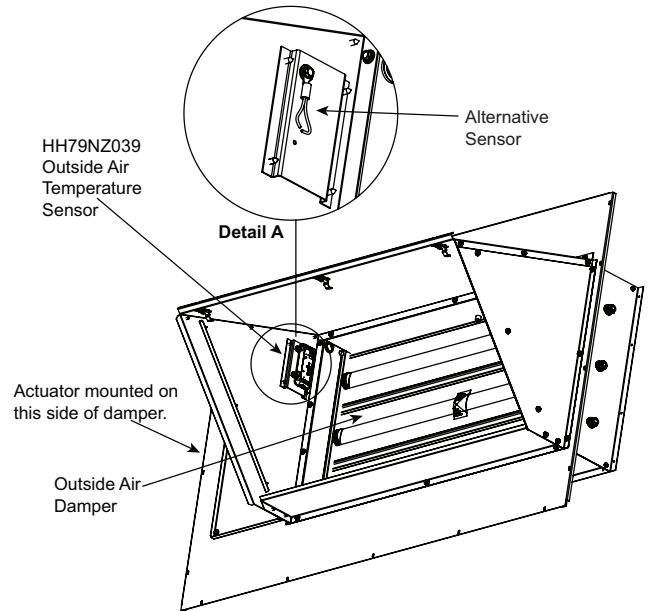
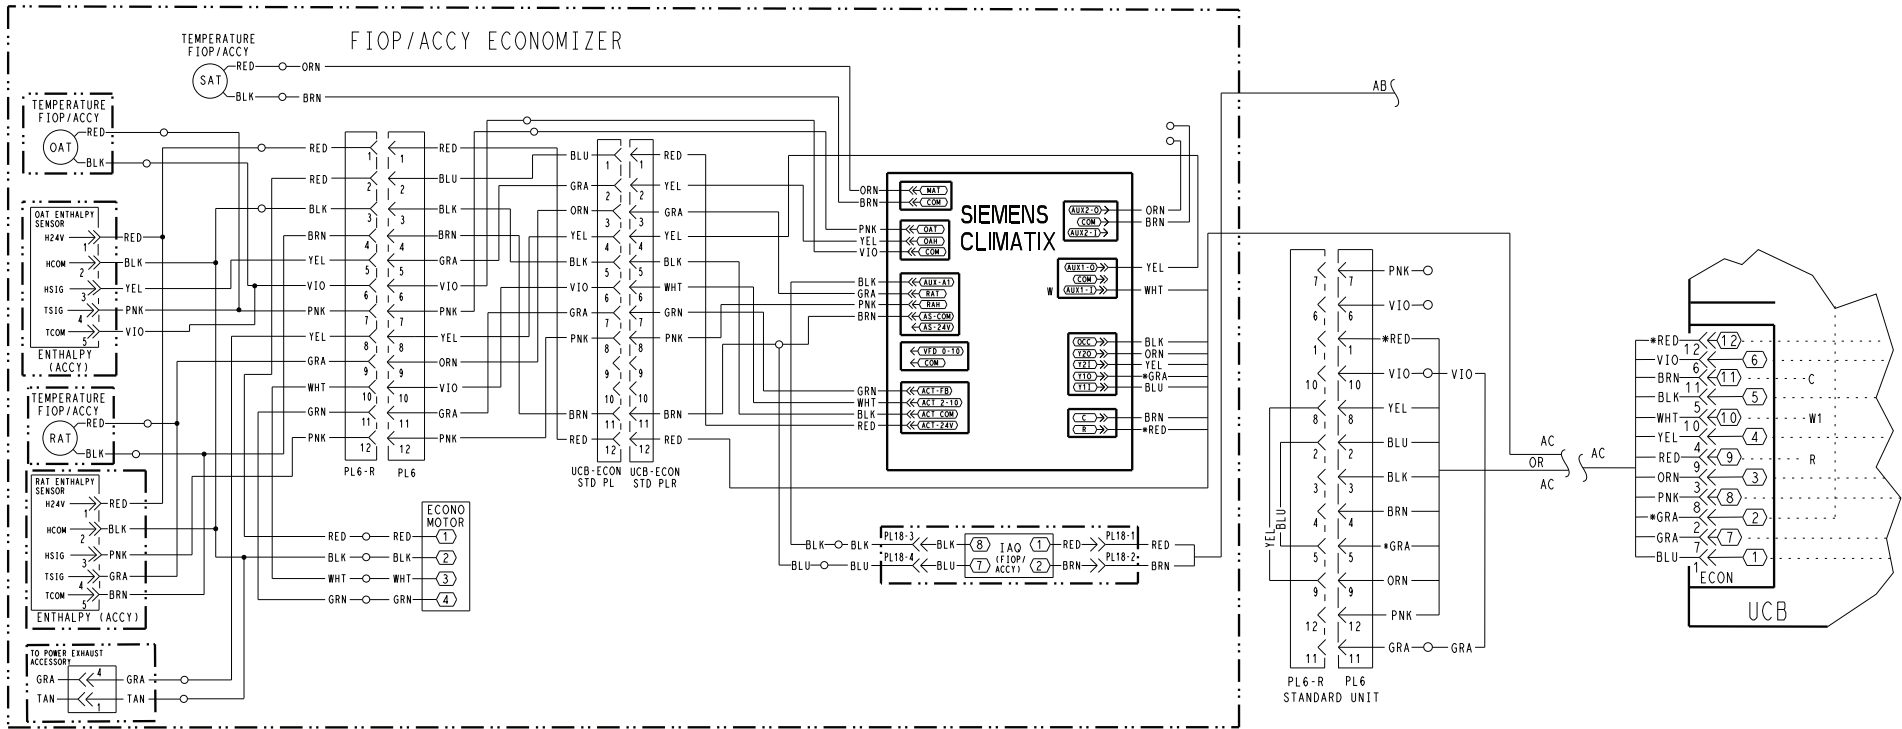
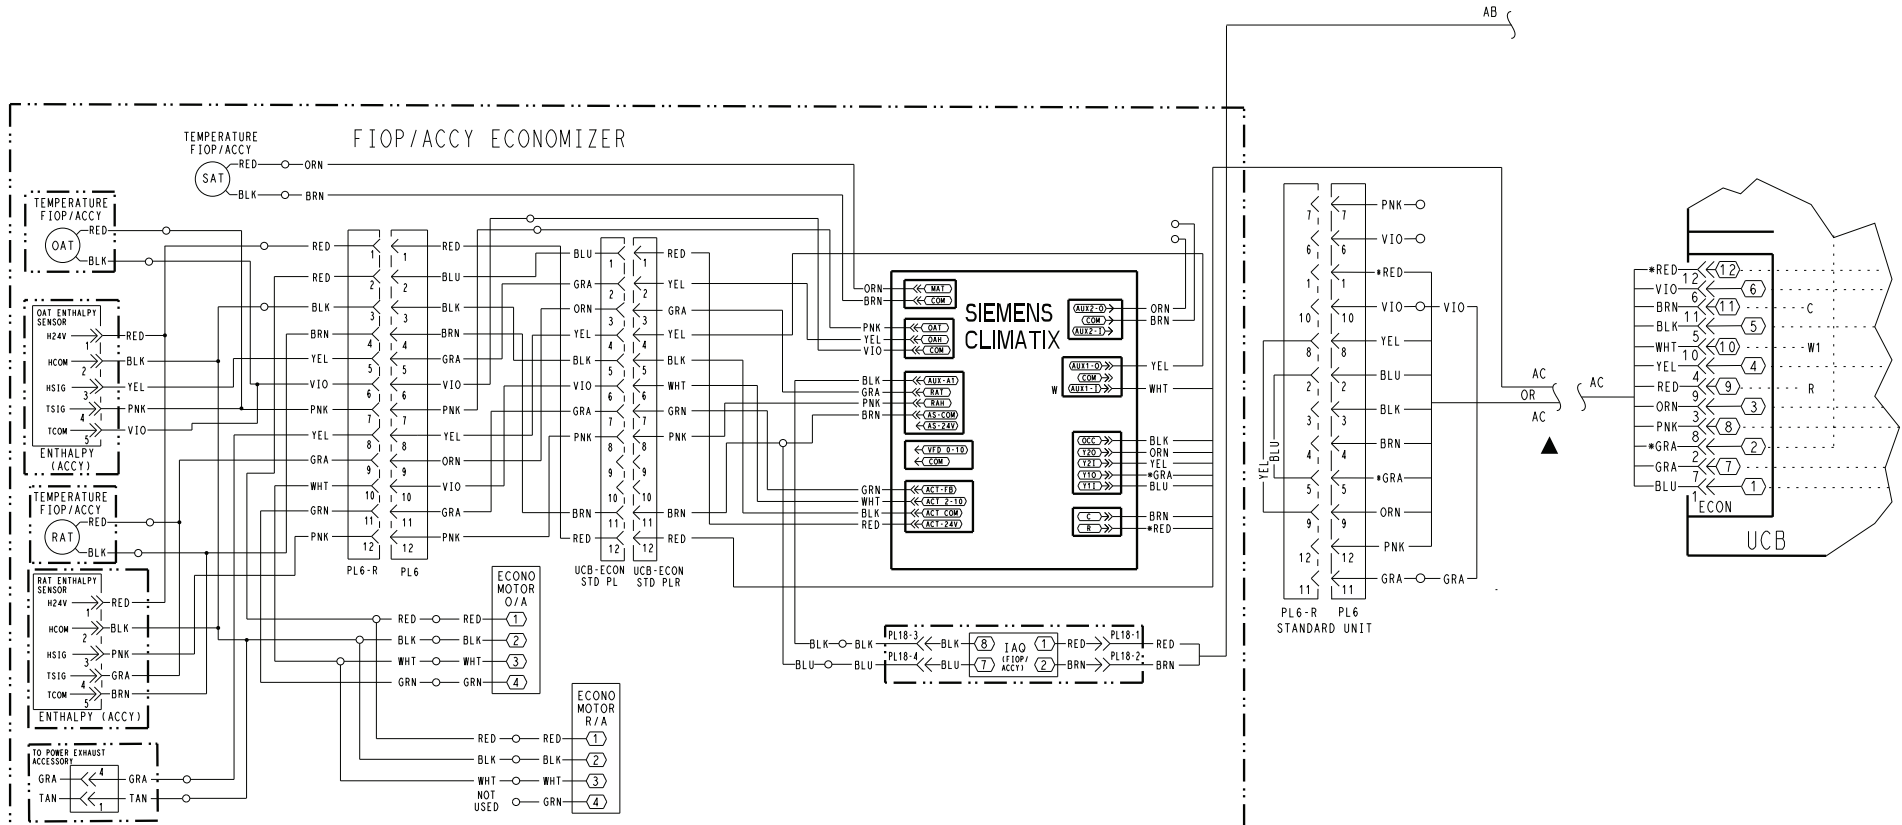

Fig. 1 — EconomizerONE Component Locations (CRECOMZR112A00 Shown)
Fig. 20 — Economizer Wiring Diagram for CRECOMZR109A00, CRECOMZR110A00, and CRECOMZR111A00 Single Actuator Units
Fig. 21 — Economizer Wiring Diagram for CRECOMZR112A00 Ultra Low Leak Horizontal Dual Actuator Units Only
Figure 1 shows component locations on the EconomizerONE system.
7. If the EconomizerONE system will be operating with an enthalpy outside air sensor, then remove the factory installed HH79NZ039 dry bulb sensor from the front face of the economizer (see Fig. 1), and install the accessory enthalpy sensor HH57LW001 in the same location. Connect the (5) wire harness with plug from the EconomizerONE assembly to the enthalpy sensor. See Fig. 20 for wiring diagram. Refer to "INSTALLING OPTIONAL HH57LW001 SINGLE OUTSIDE AIR ENTHALPY SENSOR" on page 11 for more details on enthalpy settings.
13. If the EconomizerONE system will be operating with an enthalpy outside air sensor, then remove the factory installed HH79NZ039 dry bulb sensor from the front face of the economizer (see Fig. 1), and install the accessory enthalpy sensor HH57LW001 in the same location. Connect the (5) wire harness with plug from the EconomizerONE assembly to the enthalpy sensor. See Fig. 20 for wiring diagram. Refer to "INSTALLING OPTIONAL HH57LW001 SINGLE OUTSIDE AIR ENTHALPY SENSOR" on page 11 for more details on enthalpy settings.
20. Connect the R/A assembly actuator wires to the O/A harness. Refer to Fig. 21 for wiring details.
21. If the EconomizerONE system will be operating with an enthalpy outside air sensor, then remove the factory installed HH79NZ039 dry bulb sensor from the front face of the economizer (see Fig. 1), and install the accessory enthalpy sensor HH57LW001 in the same location. Connect the (5) wire harness with plug from the EconomizerONE assembly to the enthalpy sensor. See Fig. 21 for wiring details. Refer to “INSTALLING OPTIONAL HH57LW001 SINGLE OUTSIDE AIR ENTHALPY SENSOR” on page 11 for more details on enthalpy settings.
34. The supply air temperature sensor may look like an eyelet terminal with wires running to it (HH79NZ039). The sensor is located on the “crimp end” and is sealed from moisture. Mount the supply air temperature sensor (provided) to the fan deck, near the right hand side corner post. Connect the sensor red and black wires to the orange and brown wires from the controller. (See Fig. 20 and 21.)
35. Connect the pink and violet wires routed from the controller harness to the pink and violet terminals in the wire bundle in the indoor blower section. (See Fig. 20 and 21.)
When using the HH57LW001 enthalpy sensor (see Fig. 28) for outside air changeover, the existing HH79NZ039 dry bulb sensor (see Fig. 27) must be removed. The enthalpy sensor will be mounted in the same location as the dry bulb sensor (see Fig. 1). When the enthalpy sensor's OA (Outside Air) temperature, enthalpy and dew point are below the respective setpoints, the outside air can be used for free-cooling. When any of these are above the setpoint, free-cooling will not be available. Enthalpy setpoints are configurable and create an enthalpy boundary according to the user's input. For additional details see Fig. 25-26 and Table 6.
The optional enthalpy control sensor (Part No.: HH57LW001) communicates with the POL 224 economizer controller using the five-wire harness, 48TC005213. The HH57LW001 sensor can be used as a single outside air enthalpy, a differential return enthalpy, or a differential return temperature sensor. See Fig. 20 and 21 for wiring the HH57LW001 enthalpy sensor for each option. Use Fig. 28 and Table 8 on page 14 to locate the wiring terminals for each enthalpy control sensor.
If installing the optional HH57LW001 enthalpy sensor, the HH79NZ039 dry bulb outside air sensor must first be removed. Wire sensor to harness 48TC005213 and the (5) wires from the harness to the EconomizerONE harness in the return air chamber. Harness 48TC005213 has a 5 pin plug that connects directly to the HH57LW001 enthalpy sensor. See Fig. 20 and 21 for wiring connections. Refer to Fig. 28 and Table 8.